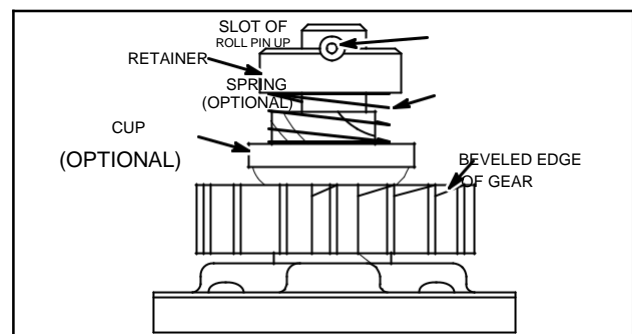

Fig. 694 – ASSEMBLING STARTER MOTOR DRIVE
1. Assemble pinion gear with beveled edge on the gear up as shown in Fig. 694.